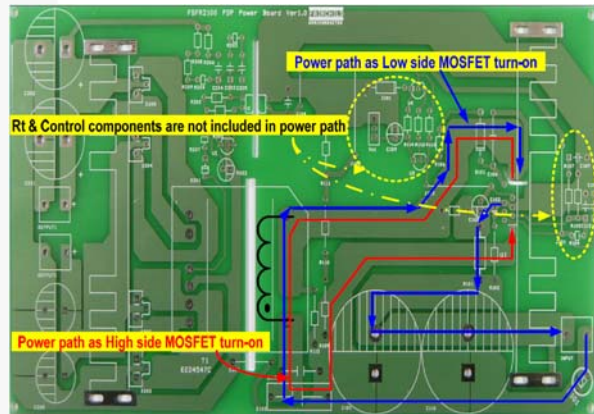

Figure 25. Example for Duty Balancing
**7. PCB Layout Guidelines:** Duty imbalance problems may occur due to the radiated noise from the main transformer, the inequality of the secondary side-leakage inductances of main transformer, and so on. This is one of the reasons that the control components in the vicinity of  $R_T$  pin are enclosed by the primary current flow pattern on PCB layout. The direction of the magnetic field on the components caused by the primary current flow is changed when the high- and low-side MOSFET turn on by turns. The magnetic fields with opposite directions induce a current through, into, or out of the  $R_T$  pin, which changes the turn-on duration of each MOSFET. It is strongly recommended to separate the control components in the vicinity of  $R_T$  pin from the primary current flow pattern on PCB layout. Figure 25 shows an example for the duty-balanced case.